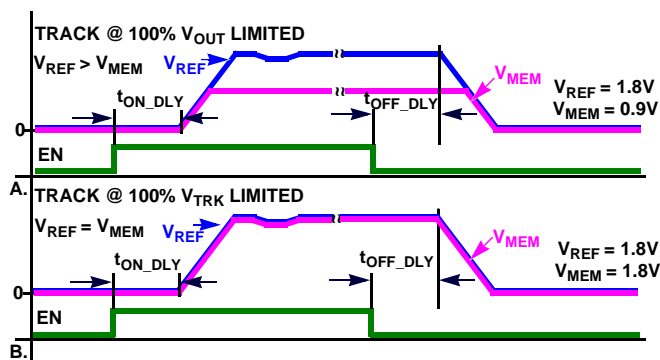
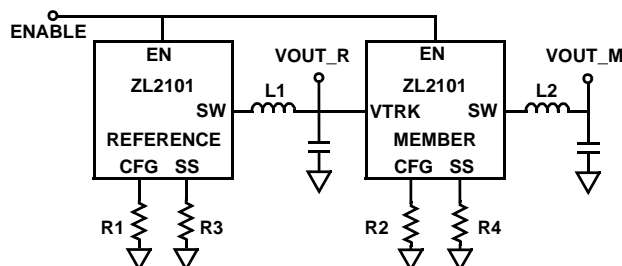

FIGURE 19. COINCIDENT TRACKING
FIGURE 22. BASIC PIN-STRAP TRACKING CONFIGURATION
Figure 22 is an example of a basic pin-strap tracking configuration. The VTRK pin is an analog input that, when tracking mode is enabled, the voltage applied to the VTRK pin performs as a reference for the device's output voltage. The ZL2101 offers two modes of tracking: coincident and ratiometric. Figures 19 and 20 illustrate the output voltage waveform for the two tracking modes.
- a. Track at 100% V_{OUT} limited. Member rail tracks the reference rail and stops when the member reaches its target voltage, Figure 19 (A).
- b. Track at 100% VTRK limited. Member rail tracks the reference at the instantaneous voltage value applied to the VTRK pin, Figure 19 (B).
The configuration settings for Figures 19 and 20 are shown below in Figure 21. In each case the reference and member rise times are set to the same value.
Tracking is enabled with the CFG pin as shown in Table 16 on page 24, and configured to a specific ramp rate using the SS pin, as shown in Table 13 on page 23. Figure 22 shows the basic schematic of pin-strap tracking.